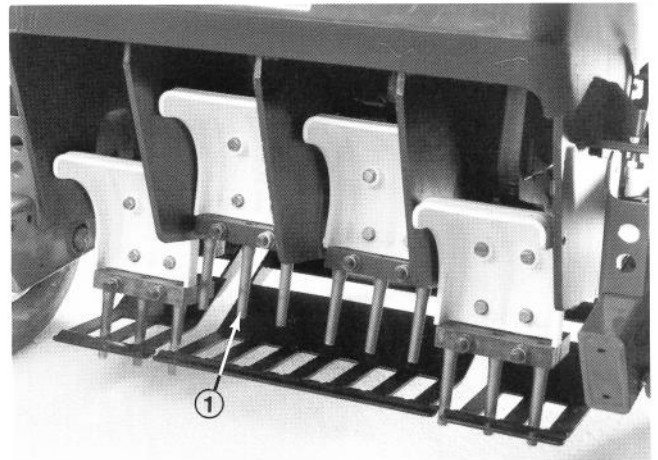

Figure 18
5. Tighten mounting nuts to 100-110 ft/lb. torque (Fig. 18).